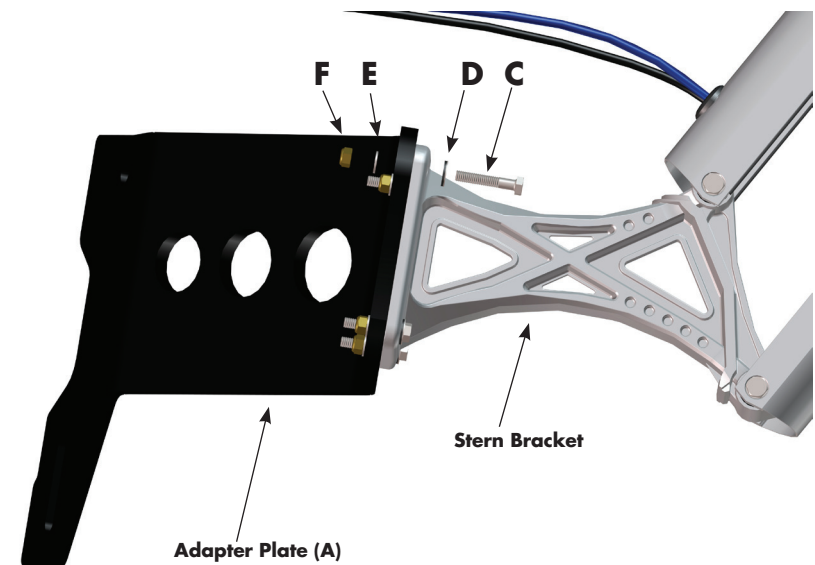

Fig A-3
Now insert the dressed bolts (C) through the Power-Pole stern bracket, adapter plate (A), heavy thunder washer (E) and then thread lock nuts (F) onto each bolt and tighten to 120 inch pounds / 10 foot pounds of torque **Fig A-3.**